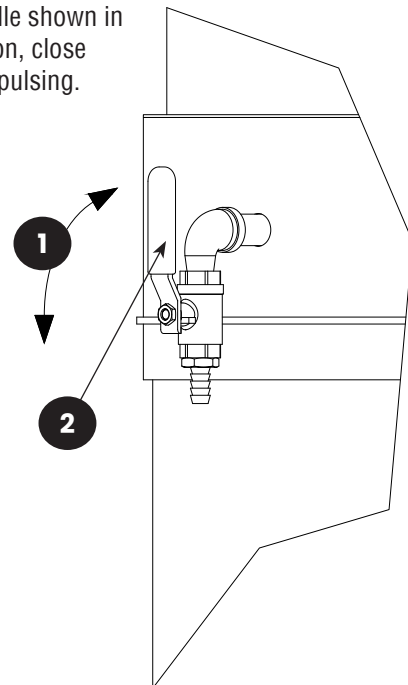

FIGURE 7: (1) Handle Rotation; (2) Pulse Valve Handle
3.1.2 | Refer to **Figure 7** and operate the manual pulse-valve. The collector should pulse every time the valve is operated.
3.3.1 | The filter cartridge pulses each time the manual pulse-valve is operated; refer to **Figure 7**. With the exhauster running, quickly operate the pulse valve. Several pulses may be needed to clean the cartridge; wait about five seconds between pulses. Rapid repetitive pulsing may cause dust leakage.